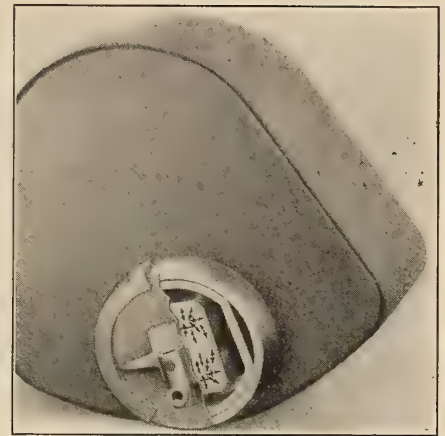
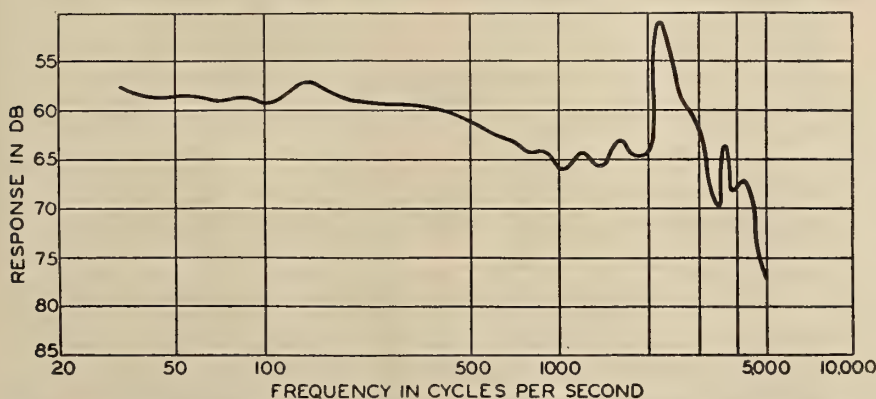
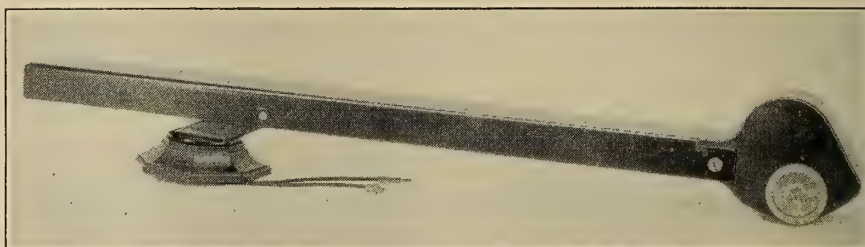

Fig. 2. Movement of the oil giving the damping effect in 4-A reproducer
Fig. 1. Response characteristics of a No. 4-A reproducer without damping
Fig. 3. Showing complete 4-A reproducer
**I**N the usual types of electrical reproducers, such as those used with phonographs or sound pictures, the efficiency of the vibrating system is not constant but varies with frequency. These devices usually consist of one or more vibrating parts which may be linked together in a variety of ways, and the efficiency increases as resonance is approached so that a curve of response plotted against frequency shows one or more peaks, as indicated in Figure 1, instead of being a smooth line. Such variation in efficiency is undesirable in sound-reproducing devices, and is sometimes reduced by the addition of one or more dissipative, or resistance, elements.
The damping system is indicated in Figure 2, and the complete reproducer is shown in Figure 3. The effectiveness of the damping arrangement is evident from a comparison of Figures 1 and 4. In the former case no damping was used and the resonant peak at a frequency of about 2300 cycles is quite evident. In the